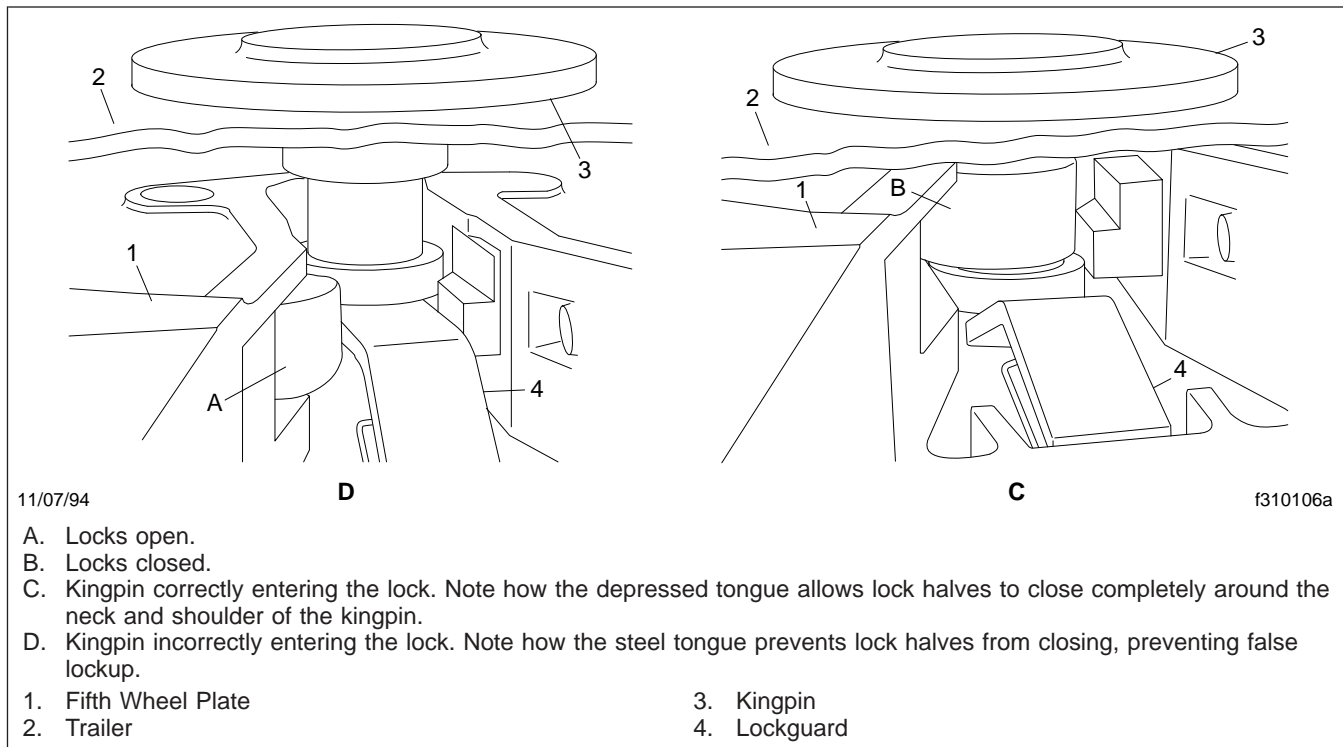

Fig. 10.5, Lockguard Mechanism (rear view)
The Holland lockguard (Fig. 10.5) is a device that prevents a false lockup, and is used on all models. The Lockguard is a spring-tensioned, smooth-surfaced tongue that the kingpin passes over and depresses when entering the lock mechanism. The Lockguard will prevent the locks from engaging before the kingpin fully enters the locks. If the kingpin enters the fifth wheel incorrectly and does not depress the tongue, the locks are unable to close.
3. Position the tractor so that the fifth wheel lock opening is in line (both vertically and horizontally) with the trailer kingpin. The kingpin should be in a position to enter the throat of the locking mechanism, to prevent a false lockup. See **Fig. 10.5**. Adjust the trailer landing gear to give enough alignment height so that the fifth wheel picks up the trailer on the fifth wheel ramps.